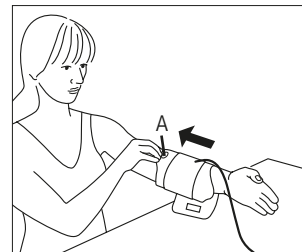

Fig.1
- The blood pressure must be measured on a bare upper arm. If the cuff is completely open, thread the end of the cuff through the metal ring to form a loop. The hook-and-loop fastener must face outwards. Hold the cuff by the grip tab A (see Fig. 1) and pull it over your upper arm.